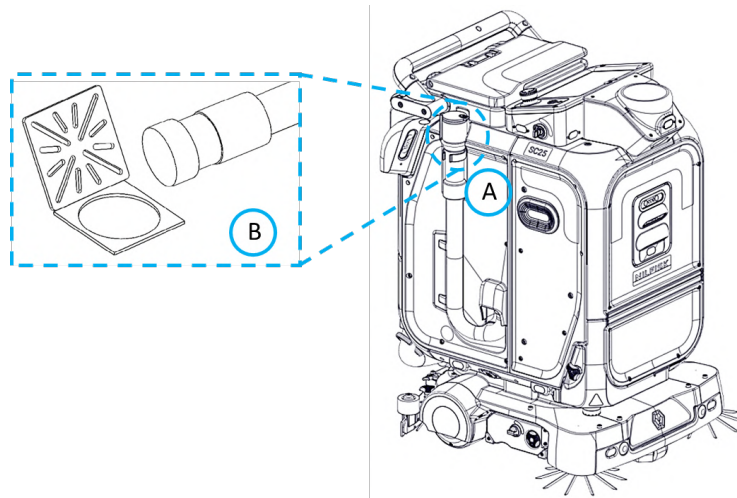

FIGURE 10-2
1. Unmount the Manual Drain Hose (14) from the holding hooks provided (**Fig. 10-2 (A)**).
2. Point hose towards a drain or appointed disposal location and uncap the hose (**Fig. 10-2 (B)**).